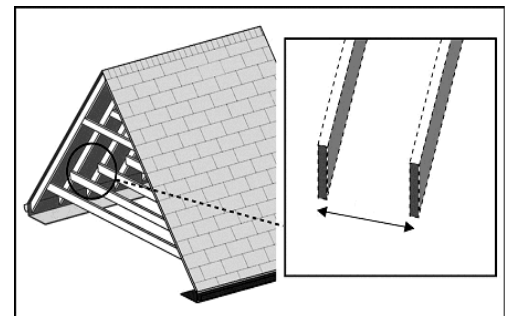

Fig. 5.2.1 – Roof rafter spacing.
1. Determine location and spacing of roof rafters (Fig. 5.2.1). This may be easy from inside attic, but rafter positions need to be transferred to exterior roof. This may be done in a number of ways and will depend on access: